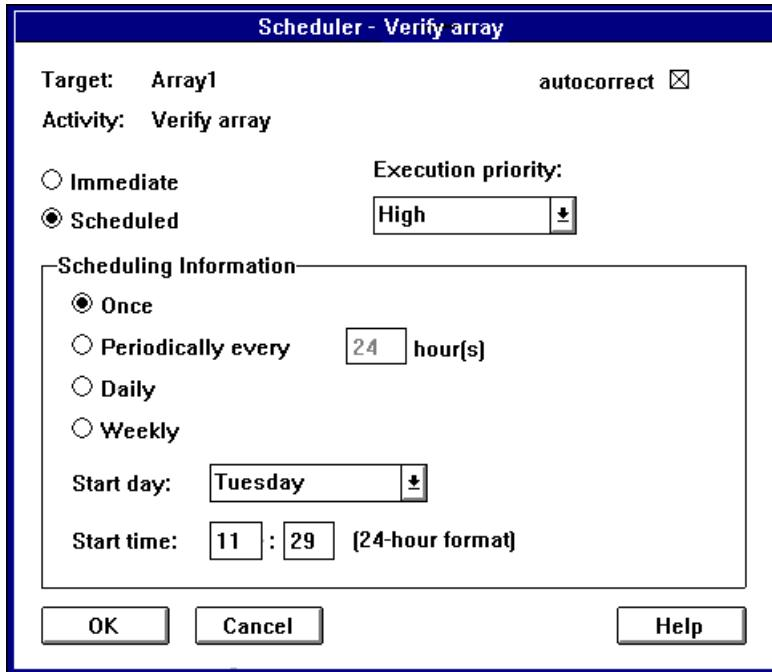

Figure 10-2. Scheduler Dialog Box
button to verify the data on the array. The Scheduler dialog box appears, as shown in Figure 10-2.
- 4 When the Spare Operations dialog box appears, click the  button. The Scheduler dialog box appears, as shown in Figure 10-2 on page 10-7.